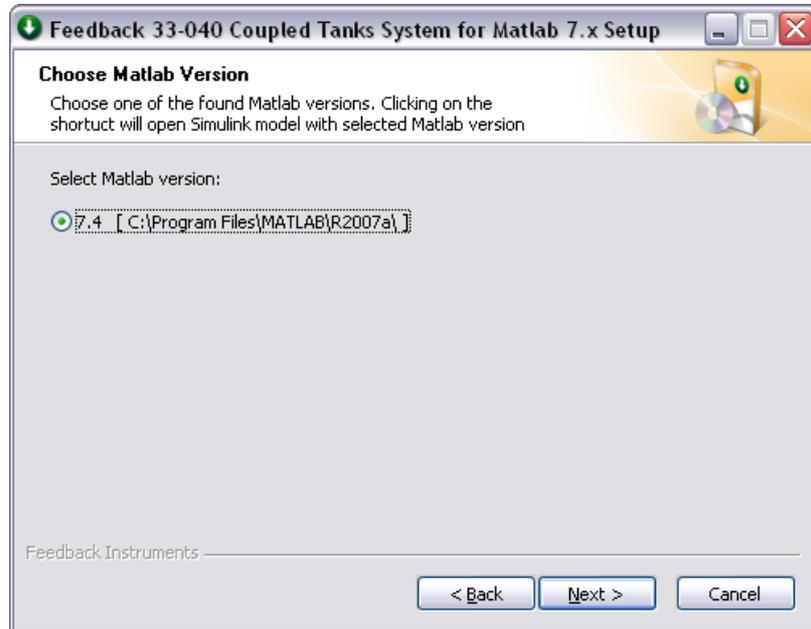

Figure 19 Matlab version choice window
2. Click 'Next' to continue. The Matlab version choice window will appear (Figure 19).